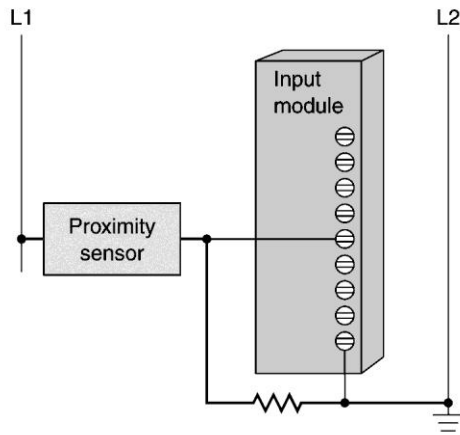

Figure 6-15 Circuit for question 21.
21. The resistor shown in the circuit of Figure 6-15 21. _____